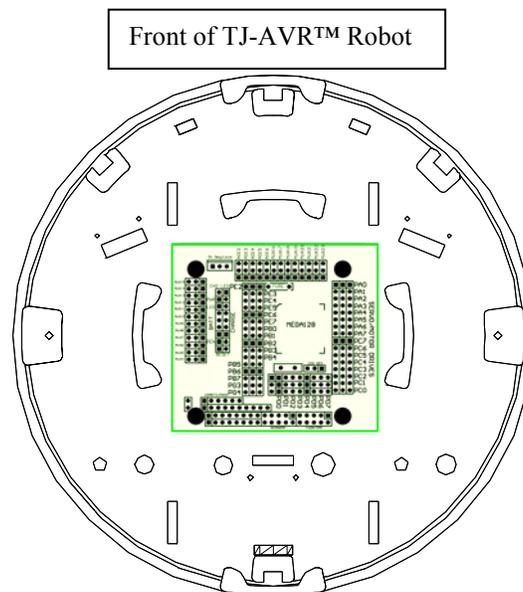

Figure 16. This figure shows the orientation of the microcontroller PCB on the plate's underside.
1. Orient the MARV128™ PCB on the bottom of the plate as shown in **Figure 16**.